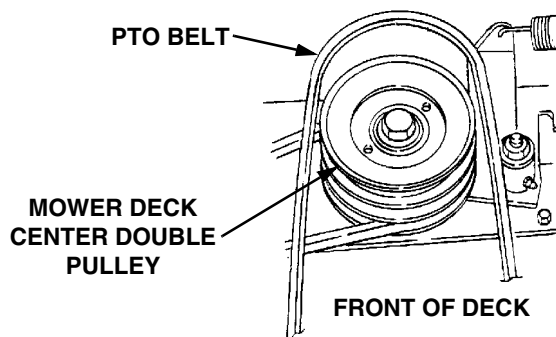
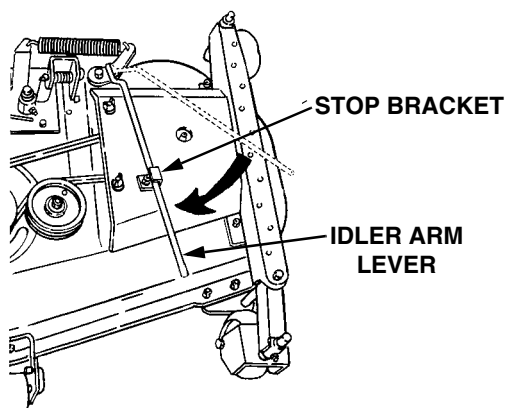

Figure 48
Figure 49
8. Remove the rearward end of the PTO belt from the upper pulley of the deck center double-pulley (Refer to Figure 48). Engage the deck idler arm lever back into its stop bracket (See Figure 49).